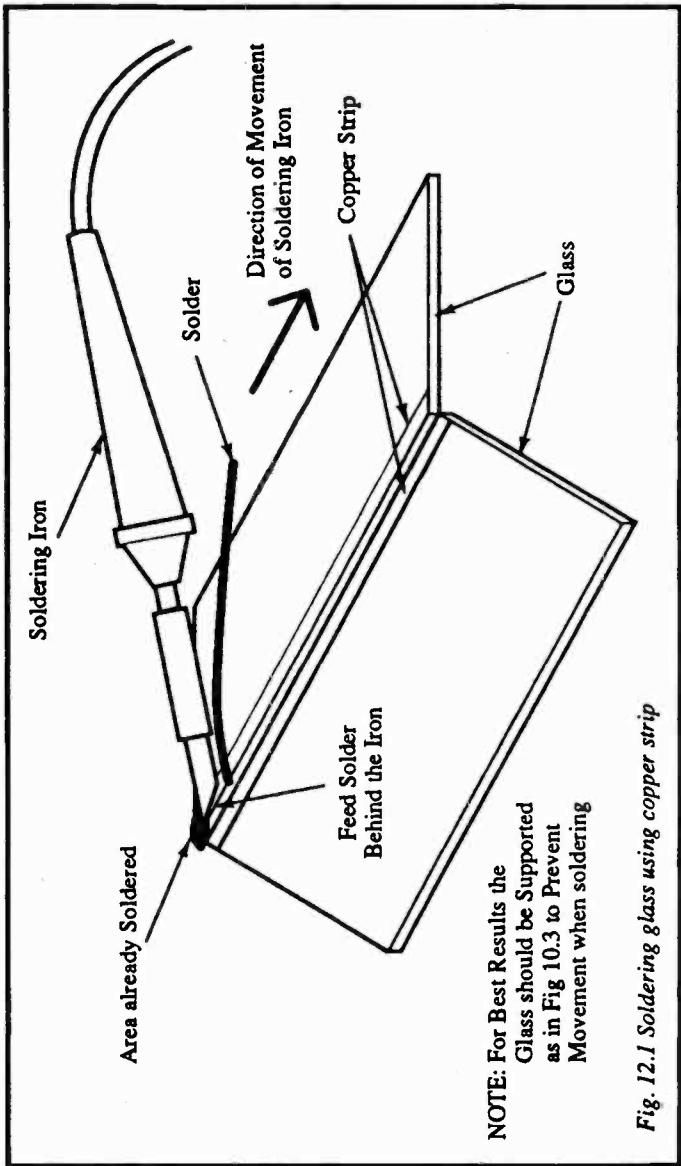

Fig. 12.1 Soldering glass using copper strip
- (iv) Apply the soldering iron bit to the strip you wish to solder, starting at the end furthest away from you. With the front point on the foil, the rear of the soldering iron bit should be slightly off the foil, to allow the solder to be fed in at this point (Figure 12.1).